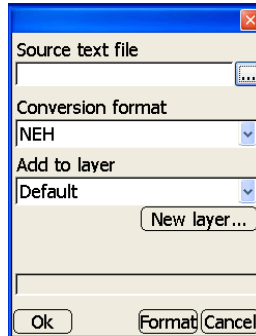

Figure 3-3. Import/Export Dialog Box – Press Format
2. On the *import/export* dialog box, press **Format** (Figure 3-3).